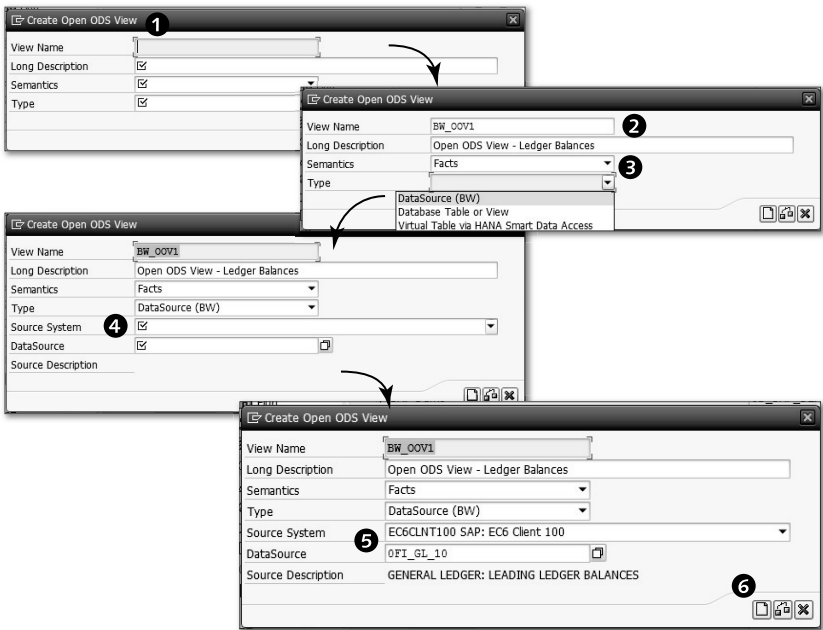

Figure 6.78 Open ODS View Input
An OOV is created under INFOAREA. Select InfoArea BW_INFOAREA ❸. From the context menu, select CREATE OPEN ODS VIEW ❹ to open the CREATE OPEN ODS VIEW screen as shown in ❶ of Figure 6.78.
An OOV is based on semantics, which are facts, master data, and texts, and we’re creating an OOV based on facts, so click on the **FACTS** tab ❸. The details of the source are shown ❹. The OOV **SOURCE TYPE** field indicates what object stores the data: DataSource (BW), Database Table or View, or Virtual Table via HANA Smart Data Access. For our example OOV, select DataSource (BW) as the source type and OFI_GL_10 as the source object. Once all of the details are added, click **CREATE** ❻, which opens the **CHANGE OPEN ODS VIEW** screen (Figure 6.78).